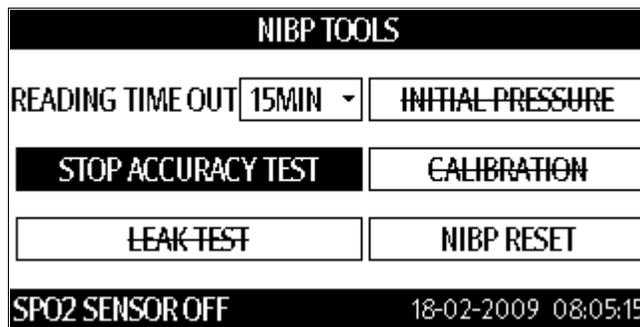

FIGURE 6-9 NIBP TOOLS dialog running the accuracy test
9. Once **ACCURACY TEST** is highlighted, press  to start the **ACCURACY TEST** as shown in FIGURE 6-9.